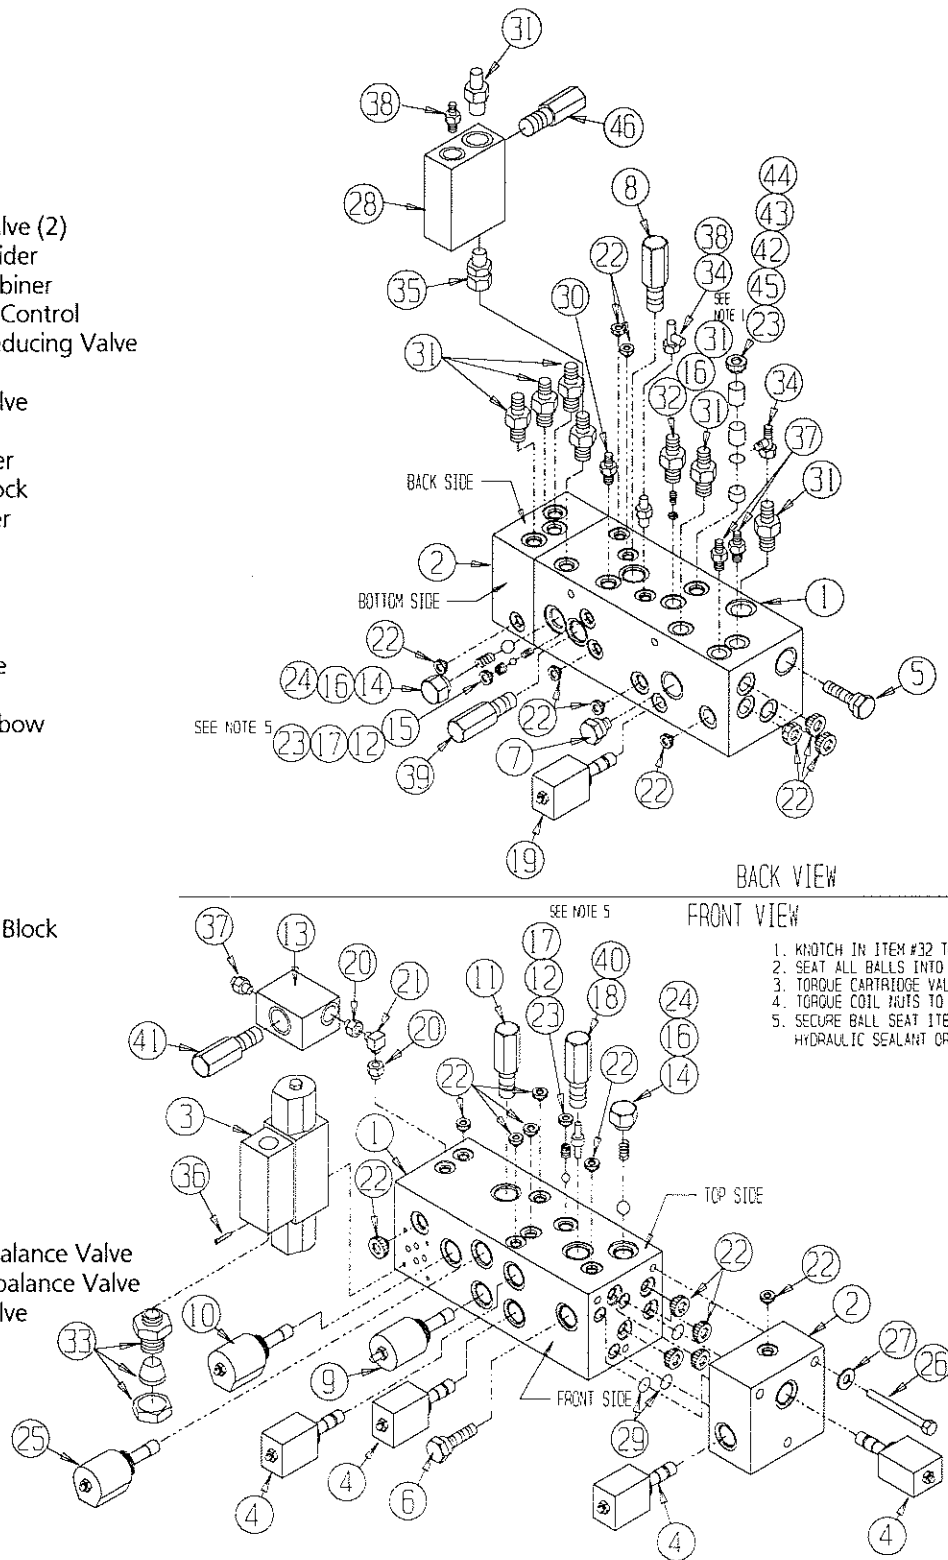

Figure 4-11: Hydraulic Manifold, Exploded View
4.7 Hydraulic Manifold (Figure 4-11)
NOTE: Mark all components as they are removed so as not to confuse their location during assembly. Refer to Figure 4-11 often to aid in disassembly and assembly.